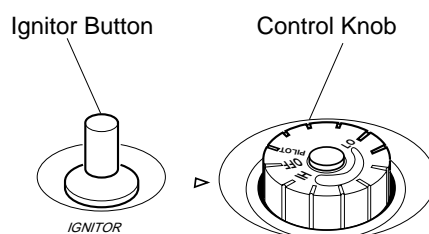

Figure 15 - Control Knob In The OFF Position
4. Wait five (5) minutes to clear out any gas. Then smell for gas, including near the floor. If you smell gas, STOP! Follow "B" in the safety information at the top of column 3, page 10. If you don't smell gas, go to the next step.
5. Turn control knob counterclockwise to the PILOT position. Press in control knob for five (5) seconds (see Figure 15).
**Note:** If pilot goes out, repeat steps 3 through 7. This heater has a safety interlock system. Wait one (1) minute before lighting pilot again.